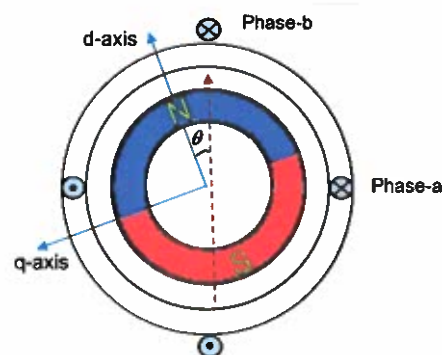

Fig. 2(b)
- (3) If the phase-a PM flux linkage waveform is expressed as:  $\lambda_{pm,a} = \lambda_{mpm} \cos \theta$ . (where  $\lambda_{mpm}$  is its peak value and  $\theta$  is the rotor position as indicated in Fig. 2), please give the PM flux linkage waveform for phase-b.
- (4) If phase-a is now supplied with a current of  $i_a = -I_m \sin \theta$  (where  $I_m$  is the peak value of the current), please determine the needed current waveform for phase-b, so that phase-b can produce the same torque profile as phase-a.
- (5) Please show the instantaneous torque produced by phase-a and phase-b, respectively.
- (6) Please give an expression for the total torque produced by phase-a and phase-b together.